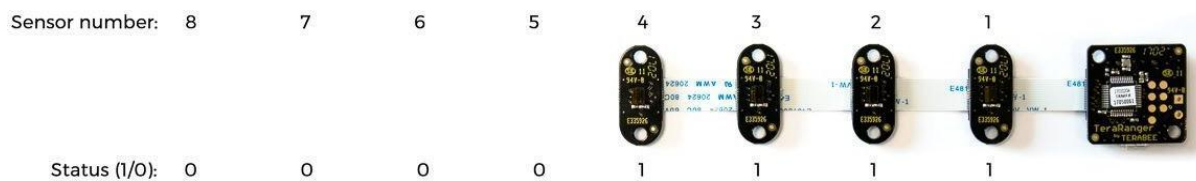

Figure 22. Calculating the Binary Byte value (4 sensors used)
The binary byte consists of 8 values that represent operating (1) and non-operating (0) sensors. In Figure 22, sensors 8, 7, 5, 2, 1 are operating and 6, 4, 3 are non-operating, which means that the binary byte value (Status) is **11010011**.
**Note:** In cases when only the operating sensors will be connected to the TeraRanger Multiflex Hub, the non-operating sensor binary status is not required (Figure 22).